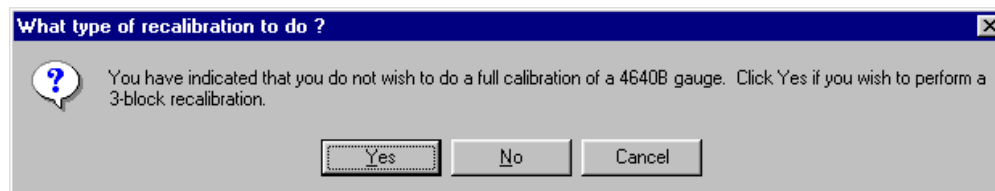

Figure 5–5. Recalibration Type Query
15. If the user clicks **<No>** on the preceding message box, the message box shown in Figure 5–6 is displayed.